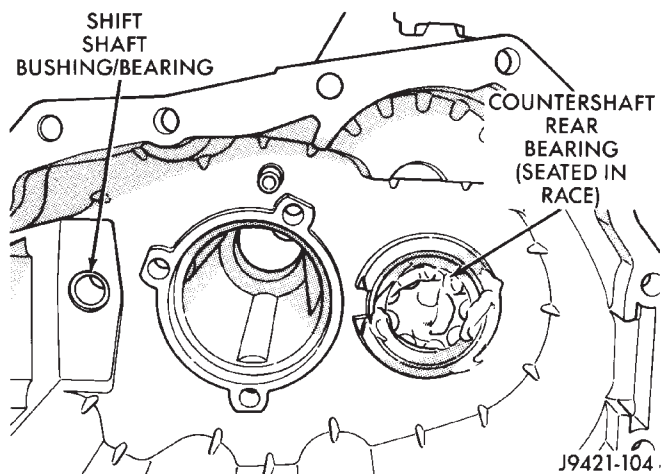
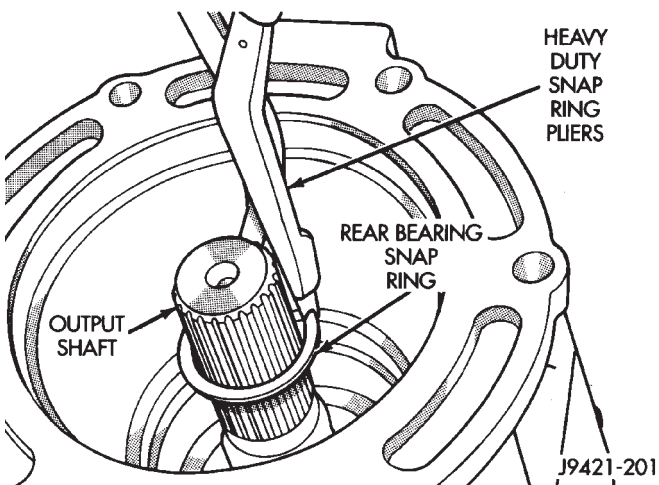

Fig. 96 Countershaft Rear Bearing Seated In Seated in Race
Fig. 101 Installing Rear Bearing Snap Ring—4WD
CAUTION: The countershaft bearings can be installed backwards if care is not exercised. Be sure the large diameter side of the roller retainer faces the countershaft and the small diameter side faces the race and housing (Fig. 96).
(4) Apply extra petroleum jelly to hold countershaft rear bearing in place when housing is installed.
(5) Apply light coat of petroleum jelly to shift shaft bushing/bearing in rear housing (Fig. 96).
(6) Reach into countershaft rear bearing with finger, and push each bearing roller outward against race. Then apply extra petroleum jelly to hold rollers in place. This avoids having rollers becoming displaced during housing installation. This will result in misalignment between bearing and countershaft bearing hub.
(3) Apply Mopar® Gasket Maker, or equivalent, to threads, bolt shanks and under hex heads of bearing retainer bolts (Fig. 101).
(4) Apply liberal quantity of petroleum jelly to countershaft rear bearing and bearing race.
(5) Install countershaft rear bearing in bearing race (Fig. 96).
(6) Apply extra petroleum jelly to hold countershaft rear bearing in place when housing is installed.
(7) Apply light coat of petroleum jelly to shift shaft bushing/bearing in adapter housing (Fig. 96).
(8) Install adapter housing on geartrain.
(9) Install rear bearing snap ring on output shaft (Fig. 101).